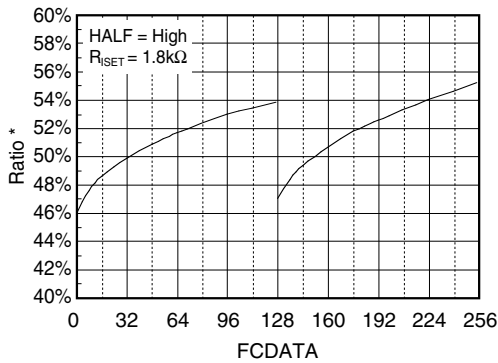

Figure 2. Cutoff frequency ratio (half fc mode)
In half fc mode, the CH-2 and CH-3 cutoff frequency is 1/2 that of the CH-1 cutoff frequency setting. Half fc mode is useful for systems where the sampling frequency varies due to luminance (Y) and color difference signal (Cr, Cb) requirements as in digital component signals. Note in figure 2 that the cutoff frequency ratio for a given cutoff frequency setting (FCDDATA) is not constant.